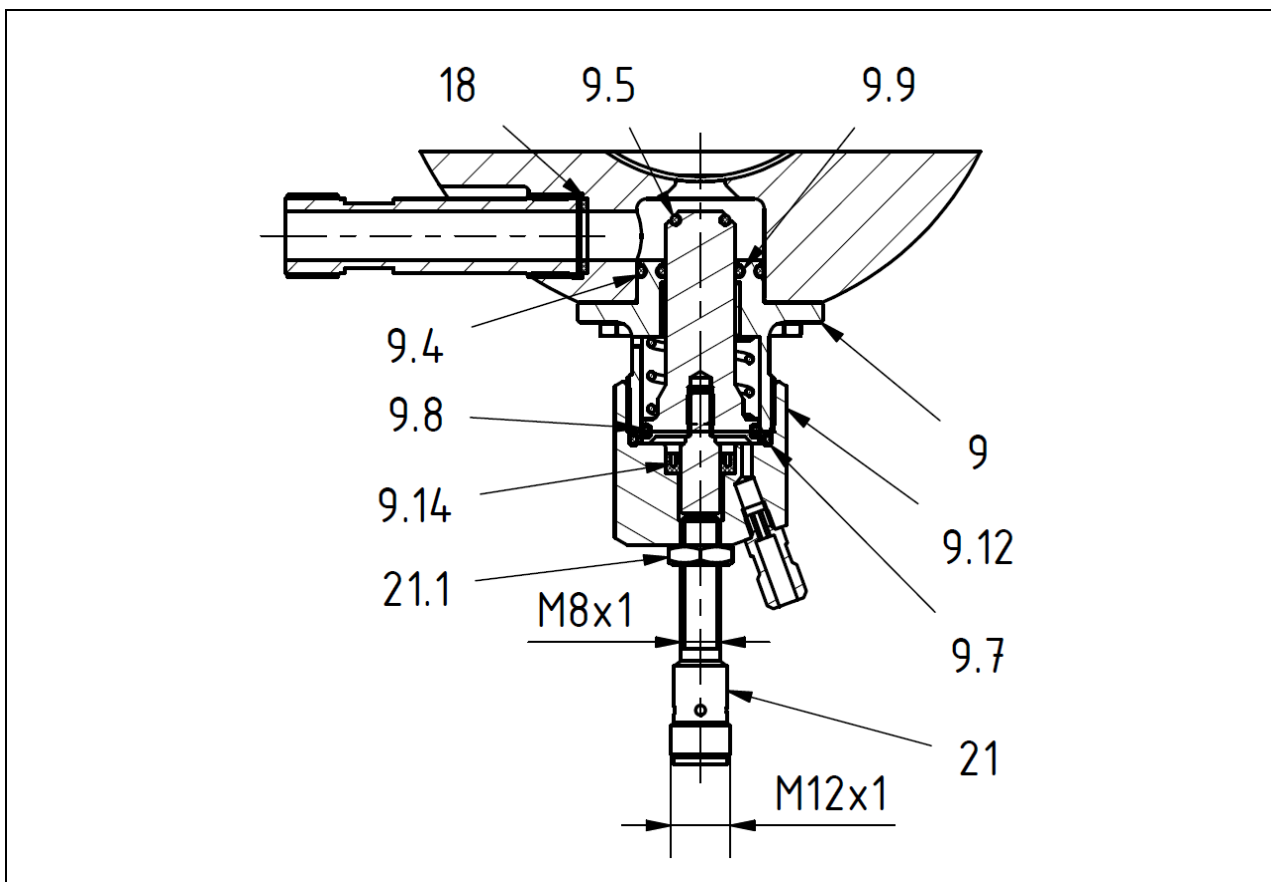

Fig. 6-11: Pneumatic auxiliary valve with feedback and seals
- Unfasten the locknut from the sensor (Fig. 6-11, item 21.1 + 21) and unscrew the sensor.
- Screw one of the two supplied nuts (Fig. 6-11, item 21.1) approx. 10 mm onto the sensor (Fig. 6-11, item 21).
- Turn the sensor back by a half to three-quarter turn and secure the position by locking the nut (Fig. 6-11, item 21.1).
- Check the O-rings (Fig. 6-11, items 9.4, 9.5, 9.8, 9.9) slotted ring (Fig. 6-11, items 9.14) for damage.
- Fit the O-ring (Fig. 6-11, item 9.8) in the slot on the valve tappet.
- Fit the O-rings (Fig. 6-11, 9.4 and 9.9) on the housing.
- Fit the O-rings (Fig. 6-11, 9.8 and 9.5) on the tappet.
- Place the seal ring (Fig. 6-11, item 9.7) into the slot provided for it in the auxiliary valve housing.
- Screw on the cap (Fig. 6-11, item 9.12) firmly (32 mm open-end wrench)